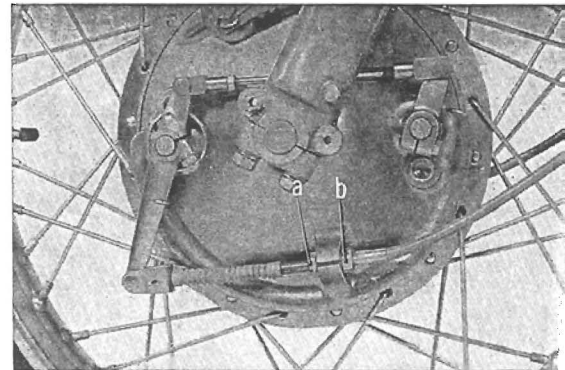

Fig. 4.86 Adjusting front brake lever play
7. Connect the front brake cable to the brake arm and adjust the free travel. The specified free travel is 15~30mm (0.6~1.2 in). Make the adjustment with nuts "a" and "b". (Fig. 4.86)